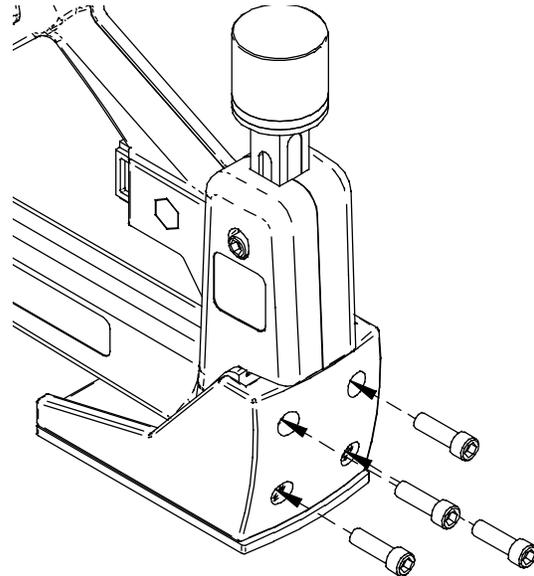

FIGURE 8
2. After nailing the First (1st) row of Flooring, (See Figure 8) place the groove of the Second (2nd) row of Flooring over the Tongue of the First (1st) row of Flooring and drive snug using the rubber knob end of the Porta-Nailer Hammer and nail in place just as the First (1st) Row of Flooring.
4. Position the Model 402 Nailer with the Tongue Nailing Shoe Installed on the tongue of the Third (3rd) Row of Flooring in the manner shown in Figure 8. **(THE FIELD SHOULD BE NAILED ONLY THRU THE TONGUE. SEE ILLUSTRATION ON PAGE 22).**
12. Repeat Steps 4-11 until all but the last Six (6) Rows of boards have been nailed in place.
13. Change over to use the Face Nailing Shoe (See Shoe Changing Section Pg. 8), and install the last Six (6) Rows of Flooring as shown in Figure 8.